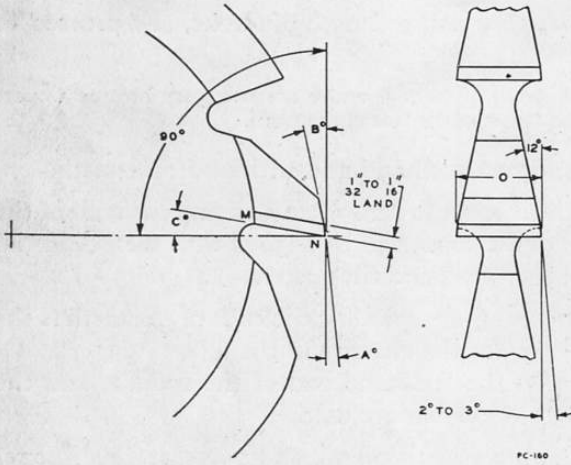

Fig. 22
**Grinding a Side Milling Cutter.** Fig. 22 shows the outline of a side milling cutter; that is, one which cuts with the sides as well as the periphery of the teeth. Notice that  $12^\circ$  is recommended for the secondary clearance angle on this type of cutter rather than  $30^\circ$  as listed in the table on page 15. This difference is due to the fact that the sides of the teeth have the same clearance angles as the periphery, and therefore would be weakened too much with a large secondary clearance angle. Since the only function of the secondary clearance is to keep the heel